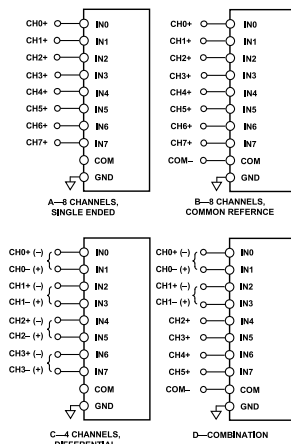

Figure 32. Multiplexed Analog Input Configurations
Figure 32 shows the different methods for configuring the analog inputs with the configuration register, CFG[12:10]. Refer to the Configuration Register, CFG section for more details.
- ▶ **Figure 32 (A)**, single-ended referenced to system ground, $CFG[12:10] = 111_2$. In this configuration, all inputs (IN[7:0]) have a range of GND to V_{REF} .
- ▶ **Figure 32 (B)**, bipolar differential with a common reference point, $COM = V_{REF}/2$, $CFG[12:10] = 010_2$. Unipolar differential with COM connected to a ground sense; $CFG[12:10] = 110_2$. In this configuration, all inputs IN[7:0] have a range of GND to V_{REF} .
- ▶ **Figure 32 (C)**, bipolar differential pairs with the negative input channel referenced to $V_{REF}/2$, $CFG[12:10] = 00X_2$. Unipolar differential pairs with the negative input channel referenced to a ground sense, $CFG[12:10] = 10X_2$. In these configurations, the positive input channels have the range of GND to V_{REF} . The negative input channels are a sense referred to $V_{REF}/2$ for bipolar pairs, or GND for unipolar pairs. The positive channel is configured with CFG[9:7]. If CFG[9:7] is even, then IN0, IN2, IN4, and IN6 are used. If CFG[9:7] is odd, then IN1, IN3, IN5, and IN7 are used, as indicated by the channels with parentheses in Figure 32 (C). For example, for IN0/IN1 pairs with the positive channel on IN0, $CFG[9:7] = 000_2$. For IN4/IN5 pairs with the positive channel on IN5, $CFG[9:7] = 101_2$. Note that for the sequencer, detailed in the Channel Sequencer section, the positive channels are always IN0, IN2, IN4, and IN6.
- ▶ **Figure 32 (D)**, inputs configured in any of the preceding combinations (showing that the AD7682/AD7689 can be configured dynamically).